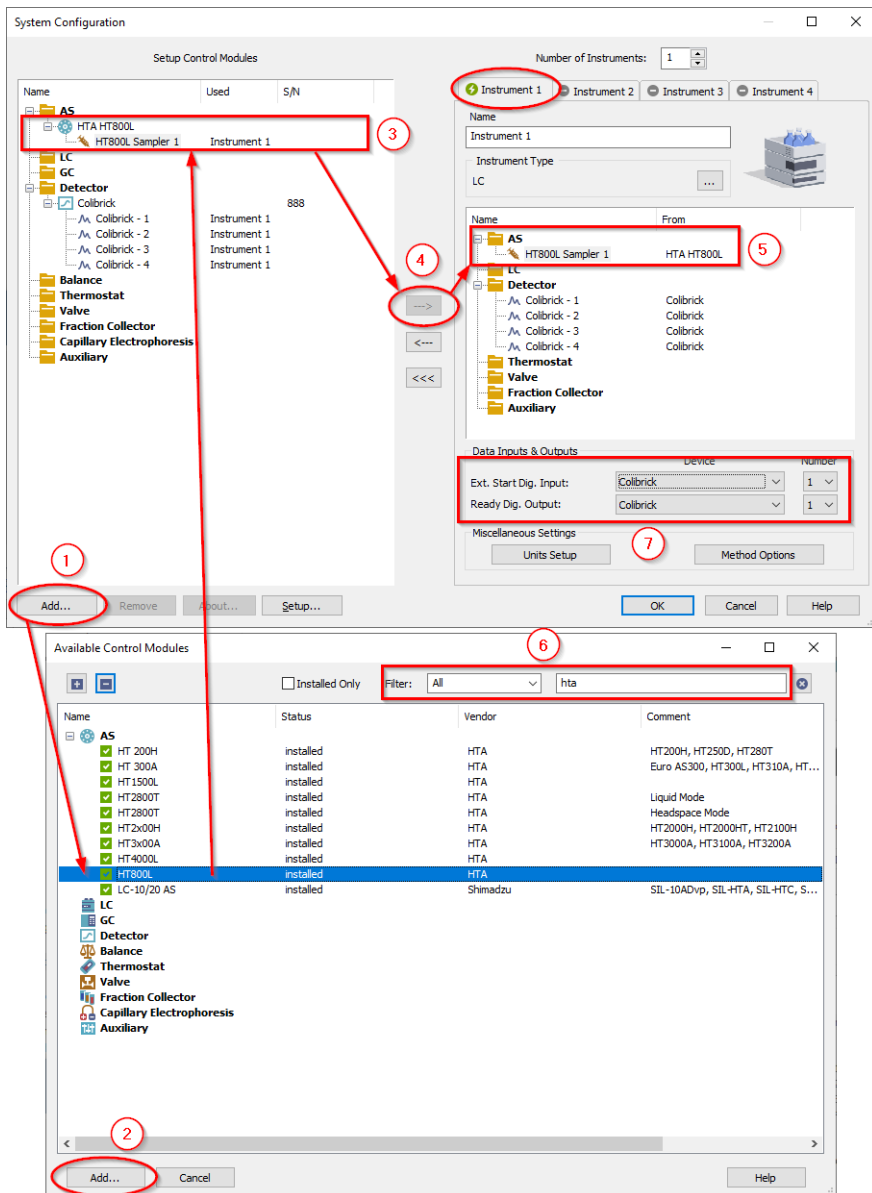

Fig 4: System Configuration
- Press the **Add** button ① (see **Fig 4** on pg 6.) to invoke the **Available Control Modules** dialog.
- You can specify the searching filter ⑥ to simplify the finding of the driver.
- Select the **HT800L** sampler and press the **Add** ② button.